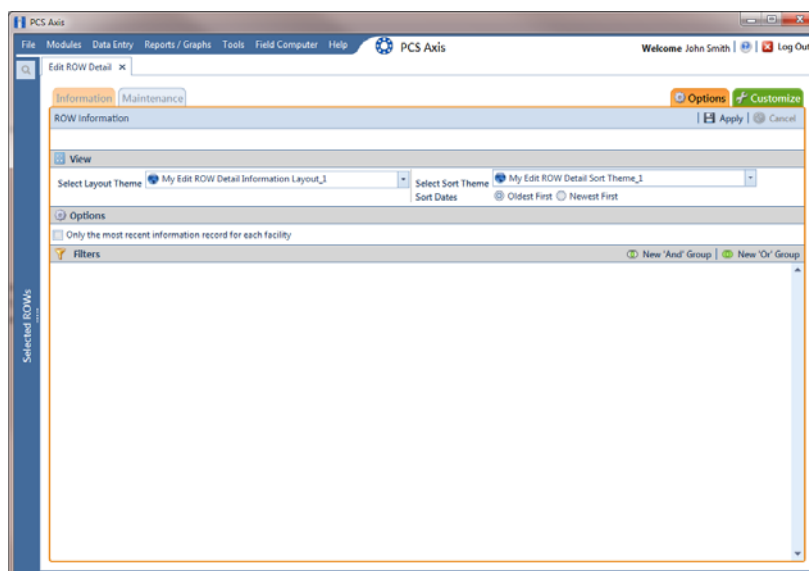

Figure 4-46. Options/Information Grid
- 2 Click the **Information** tab **Information**, then the **Options** tab **Options** to open the *Options* page (Figure 4-46).